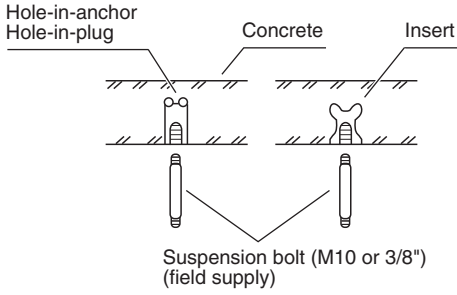

Fig. 3-3
- Insert suspension bolts (Fig. 3-3) or
- (2) Screw in the suspension bolts allowing them to protrude from the ceiling (Fig. 3-3). (Cut the ceiling material, if necessary.)